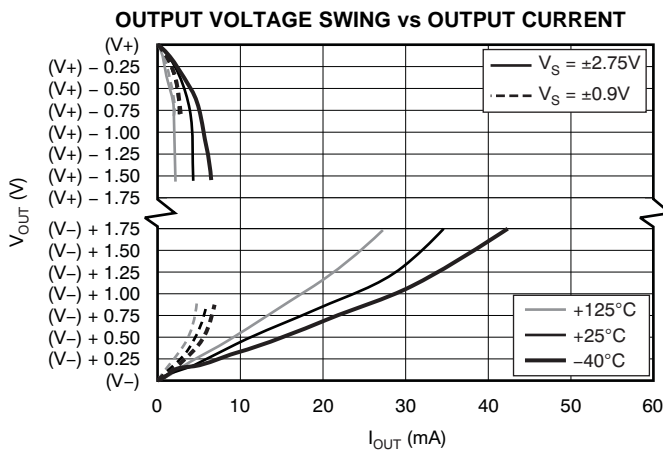

Figure 29.
(4) Does not include effects of external resistor R_G .(5) See Typical Characteristics curve, *Output Voltage Swing vs Output Current* (Figure 29).
The INA333 can be used on single power supplies of +1.8V to +5.5V. Figure 35 illustrates a basic single-supply circuit. The output REF terminal is connected to mid-supply. Zero differential input voltage demands an output voltage of mid-supply. Actual output voltage swing is limited to approximately 50mV above ground, when the load is referred to ground as shown. The typical characteristic curve *Output Voltage Swing vs Output Current* (Figure 29) shows how the output voltage swing varies with output current.